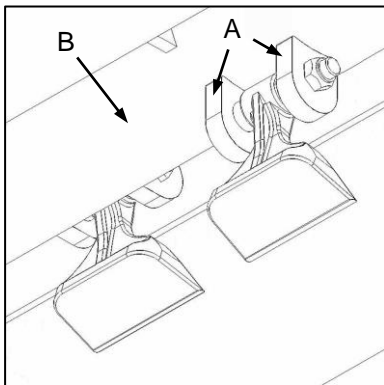

Fig. 7
- ✔ Check blade mounting lugs (Fig. 7-A) for signs of wear, distortion, elongation or fractures. Severe wear or damage to the blade mountings may necessitate replacement of the complete rotor (Fig. 7-B).
- ✔ Gaan lemmonteringskloue (Fig. 7-A) na vir tekens van slytasie, verwringing, rekking of krake. Ernstige slytasie of beskadiging van die lemmonteringstukke mag vervanging van die hele rotor noodsaak (Fig. 7-B).